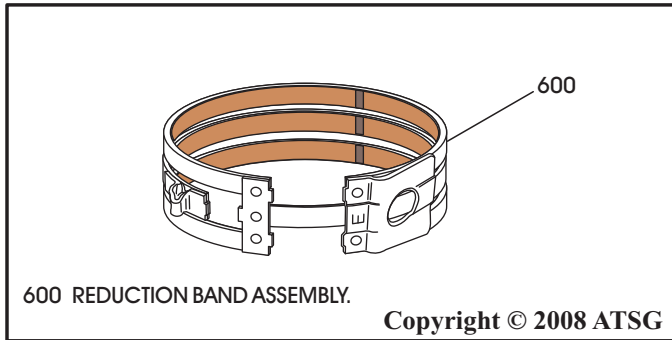

Figure 145
3. Set the reduction band aside for final assembly, as shown in Figure 145.